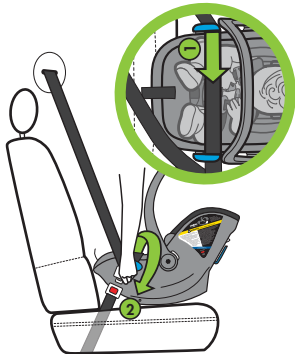

Figure 76a
- Route lap portion of the vehicle belt through both blue Vehicle Lap Belt Guides (1) and buckle vehicle belt as shown in **Figure 76a**. DO NOT pull the vehicle belt all the way out during this step.